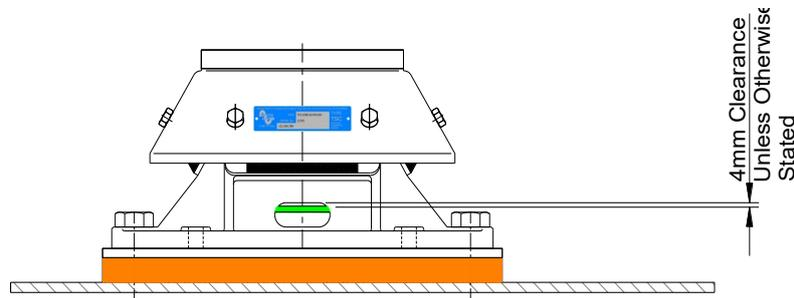

Figure 8
- Adjust the centre bolt in the mount top so that the clearance above the combined overload and rebound washer is as advised by Christie and Grey installation drawing (usually 4mm). Tighten the lock nut on the centre bolt to a torque of 200Nm to 220 Nm ( 147.5 lb-ft to 162.3 lb-ft ) See Figure 8 below.